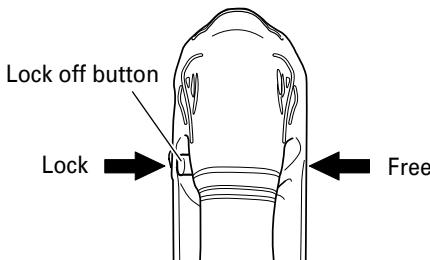

Fig. 9
### (1) Lock-off button (Fig. 9)